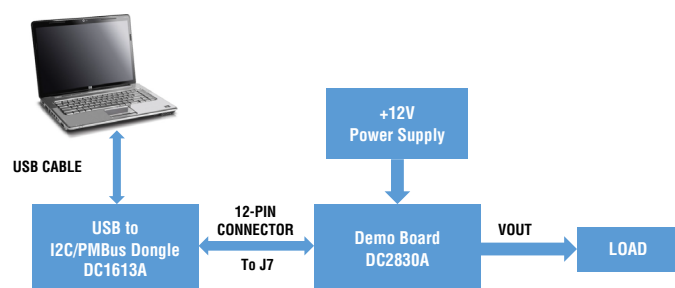

Figure 1. Demo Setup with PC of DC2830A
Demonstration circuit 2830A makes it easy to use the LTC7106 to adjust the LTM4636 output voltage. This demo manual will focus on the evaluation of LTC7106. For the LTM4636 evaluation procedure, please refer to the DC2230A-A demo manual on the Analog Devices website. Please refer to Figure 1 for proper demo board setup with PC and follow the procedure below:
2. With power off, connect the input power supply, load and meters as shown in Figure 1. Preset the load to 0A and  $V_{IN}$  supply to 12V.